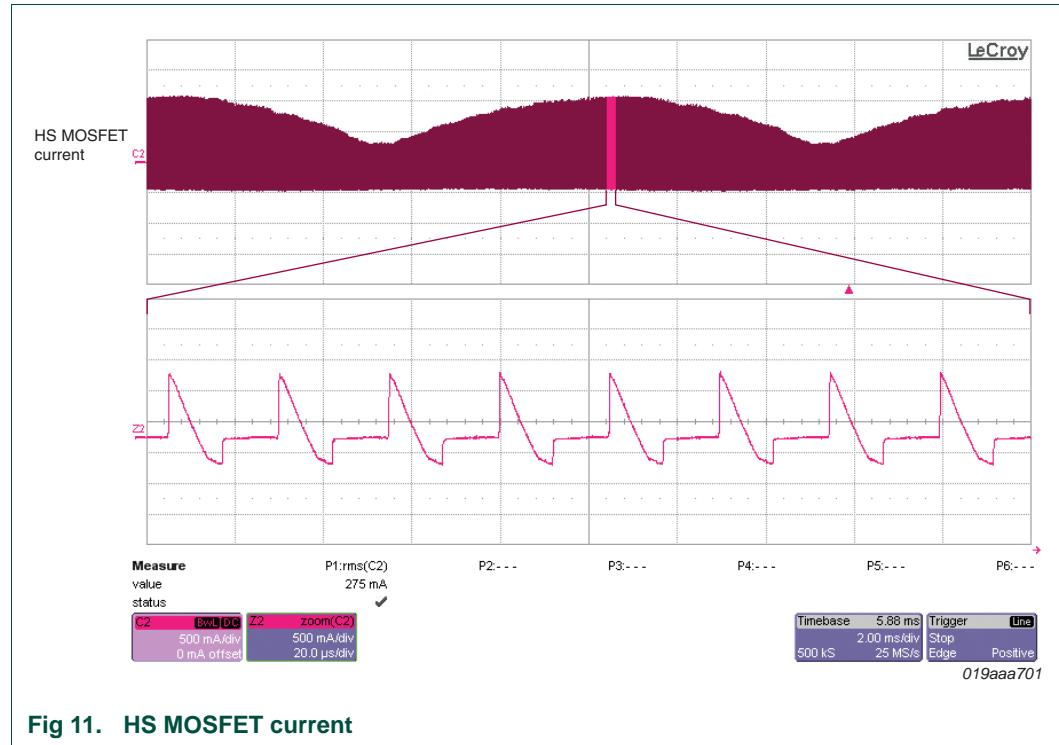

Fig 11. HS MOSFET current
- High-Side (HS) MOSFET ($R_{DS(on)} = 2.3 \Omega$, $I_I = 275$ mA (RMS)) is 0.2 W and Low-Side (LS) MOSFET ($R_{DS(on)} = 2.3 \Omega$, $I_I = 360$ mA (RMS)) is 0.3 W. The dissipation is 0.5 W for both MOSFETs. The waveforms shown in Figure 11 and Figure 12
Similarly, the current in the LS MOSFET is the sum of the boost inductor current and resonant inductor current when the LS MOSFET is conducting as shown in Figure 11 and Figure 12.